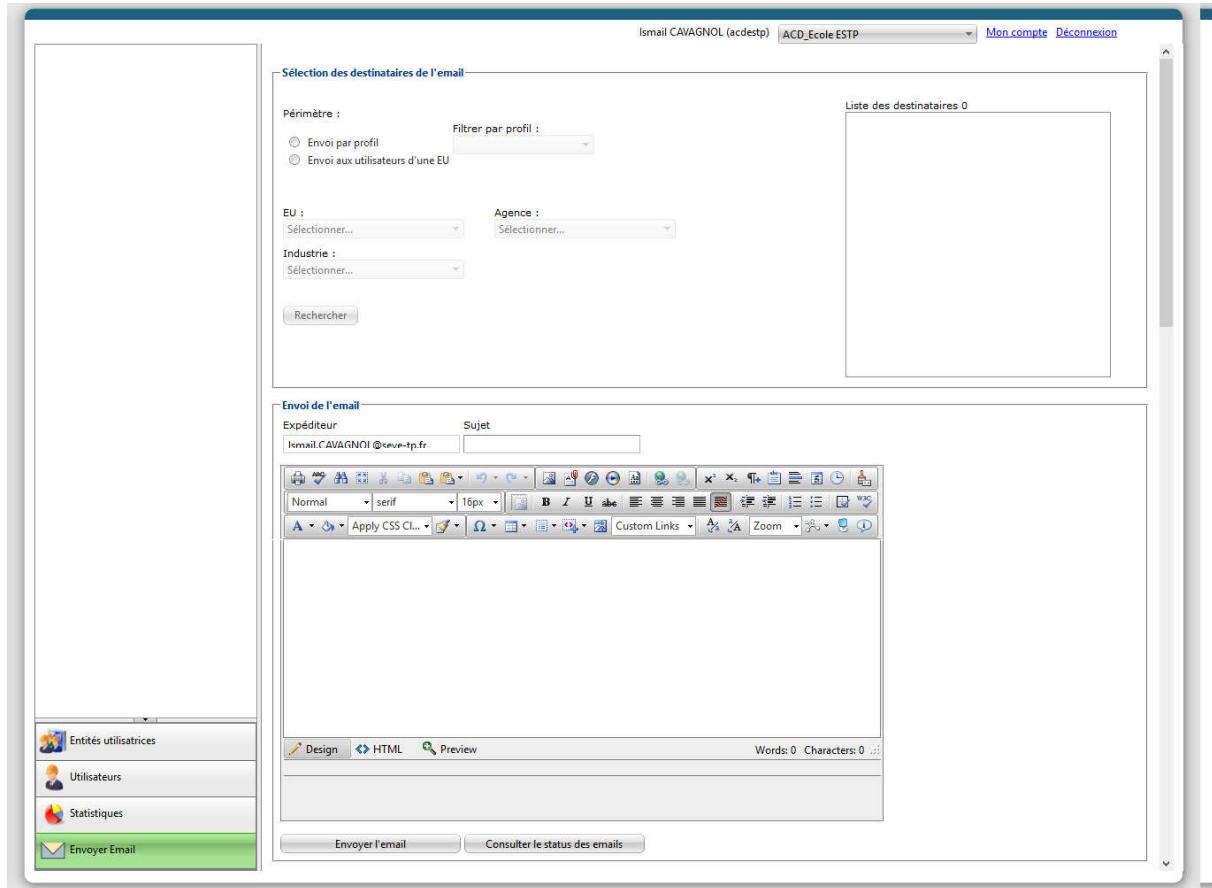

Figure 15 – Application mail pour le profil ACD
In this "Send E-mail" tab, it is possible to send emails to the Member's users in 2 different ways (Figure 15):
- Sending by profile - Sending to EU users Figure 15